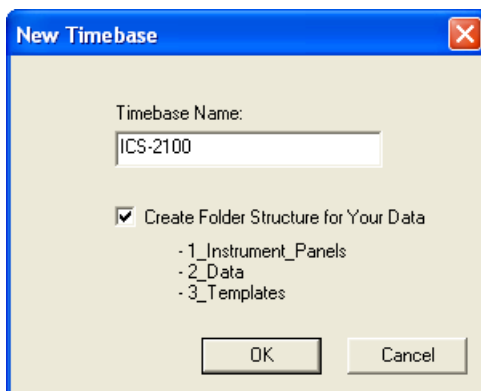

Figure 16. Example New Timebase Dialog Box
3. Type a name for the timebase (for example, **ICS-1100**) (see Figure 16).